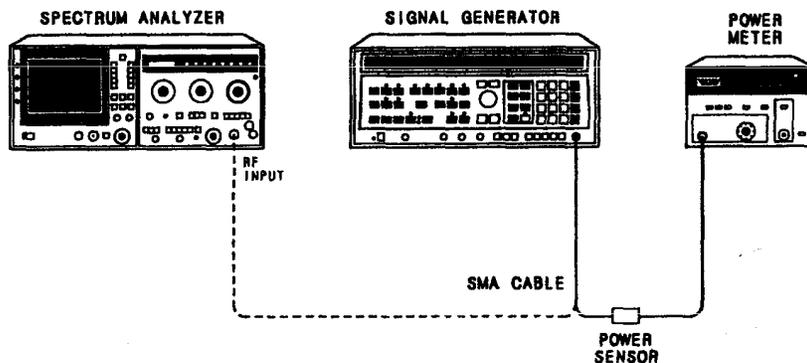

Figure 4-1. Amplitude Calibration Test Setup
5. Connect the power sensor to the SMA cable (see Figure 4-1) and adjust the signal generator output level for a power meter reading of -10 dBm minus the IF gain shown on the calibration table or mixer label for the low end of the mixer band. For example: If the calibration table or mixer label shows the IF gain at the low end of the mixer frequency band to be 21.9 dB, the signal generator output must be set for a reading of -31.9 dBm on the power meter.